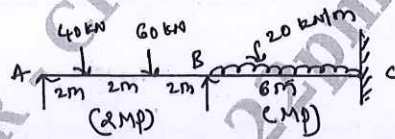

Fig.Q2(b)
- b. Determine plastic moment capacity for the beam shown in the Fig.Q2(b). Take factor load of 2.5.